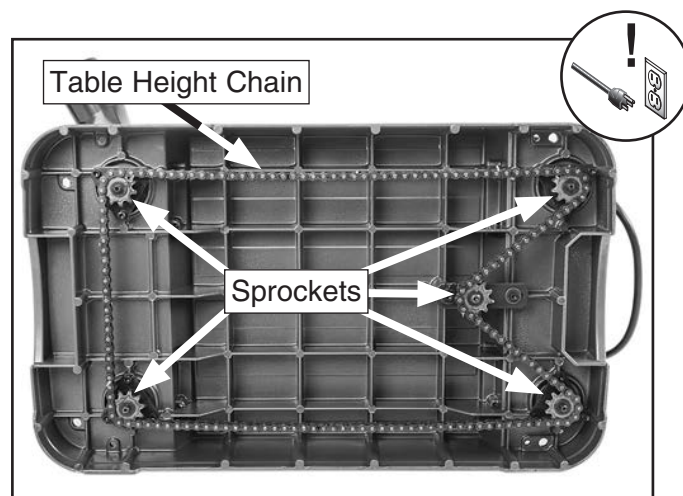

Figure 26. Table height chain and sprockets exposed for lubricating.
2. Gently tilt machine onto its side (see **Figure 26**) to expose chain.